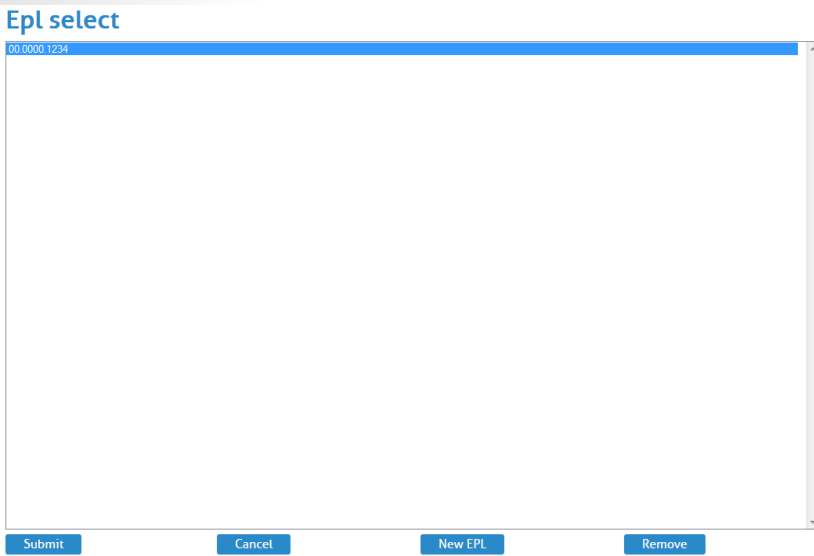

Figure 48: New EPL
- Registered EPLs Click '**Select epls**' to assign an EPL to this license holder. The popup window allows you to add a New EPL or select an already defined EPL. Click '**New EPL**' and enter the EPL number as printed on the EPL device. See Figure 48.